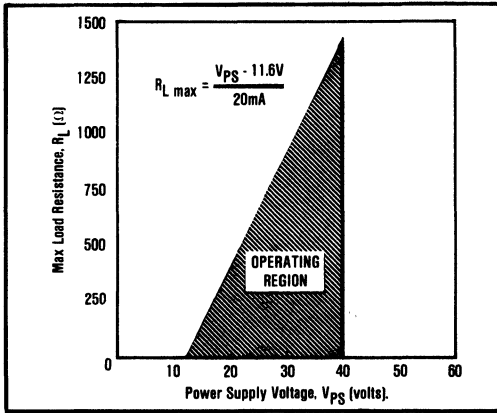

FIGURE 4. Power Supply Operating Range.
6. Always choose R_L (including line resistance) so that the voltage between pins 7 and 8 ($+V_{CC}$) remains within the $11.6V$ to $40V$ range as the output changes between the $4mA$ to $20mA$ range (see Figure 4).